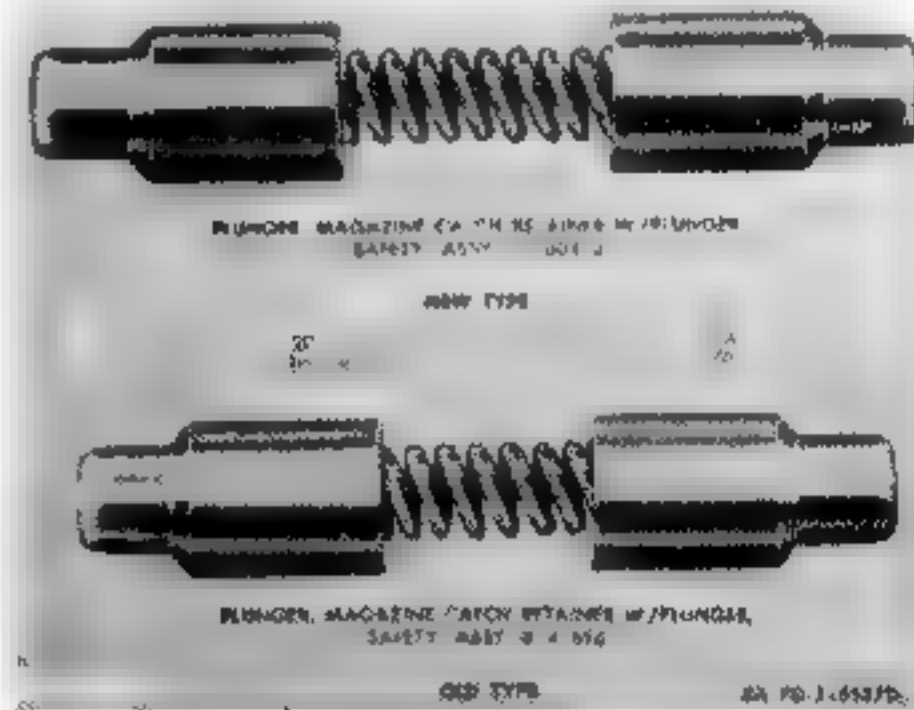

Figure 55. Plunger assemblies for magazine catch and safety.
(1) Check to assure that new type plunger assembly is used. Modification Work Order ORD B28-W-4 replaces the old type plunger assembly with the new type (Fig. 55).
(2) Check plungers for wear and the spring for functioning, deformation and set. Refer to table II for inspection information.
Note: Use figure 55 only as a guide and not as a basis for rejection. Function test of plunger assembly during function firing is an adequate criterion for acceptance.